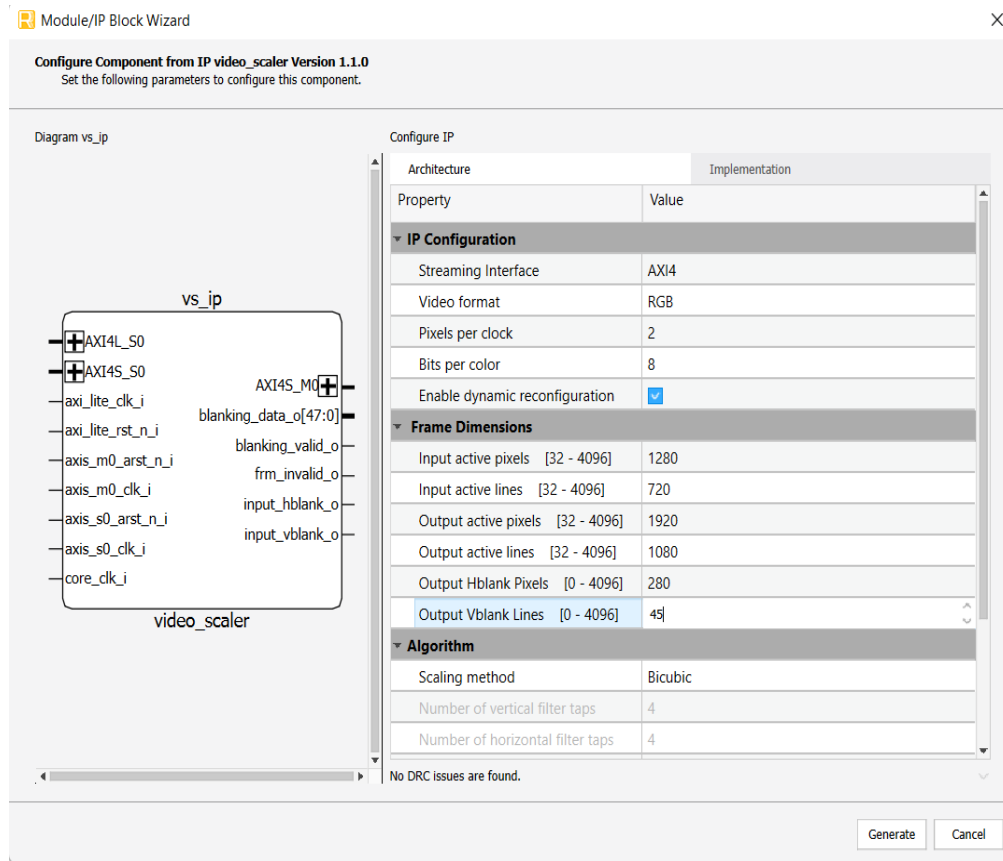

Figure 5.5. Module/IP Block Wizard for vs_ip
5. Similarly, open the **vs_ip.ipx** file and select the required parameters from the Video Scaler IP GUI as shown in Figure 5.5.
When VS_ATTACH is set to 0, the testbench runs at whatever input resolution is entered into the Video Scaler IP GUI shown in Figure 5.5.